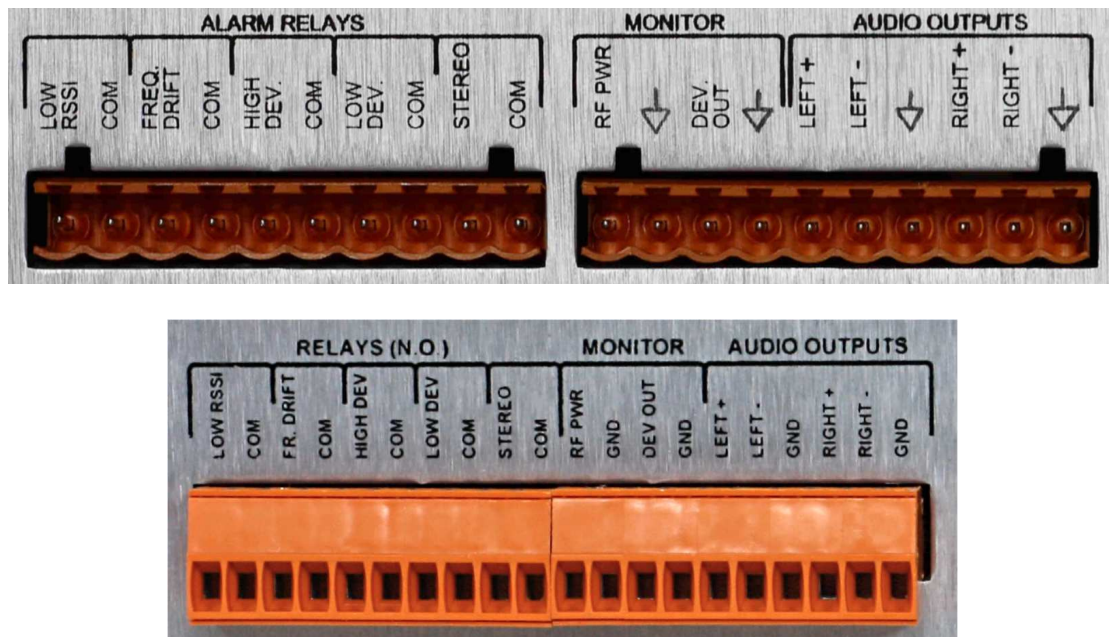

Figure 3. Alarm Relay, Monitor and Analog Audio output pinouts (Model -01: Top, Model -02: Bottom)
- Alarm, Monitor & Audio Outputs (see Figure 3 for details)